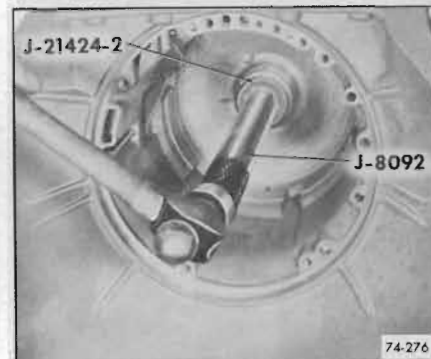

Figure 74-276
1. Install case bushing, make certain split on bushing is opposite notch in case. See Figure 74-276.